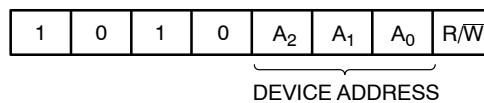

Figure 3. Slave Address Bits
The Master addresses a Slave by creating a START condition and then broadcasting an 8-bit Slave address. For the CAV24C32, the first four bits of the Slave address are set to 1010 (Ah); the next three bits, A₂, A₁ and A₀, must match the logic state of the similarly named input pins. The R/W bit tells the Slave whether the Master intends to read (1) or write (0) data (Figure 3).